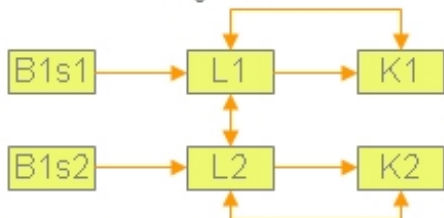

Figure 2
- The functional channel is represented by the moveable guard switch device (B1) that correspond to the input part by means of two switches s1 and s2 (see figure 2).